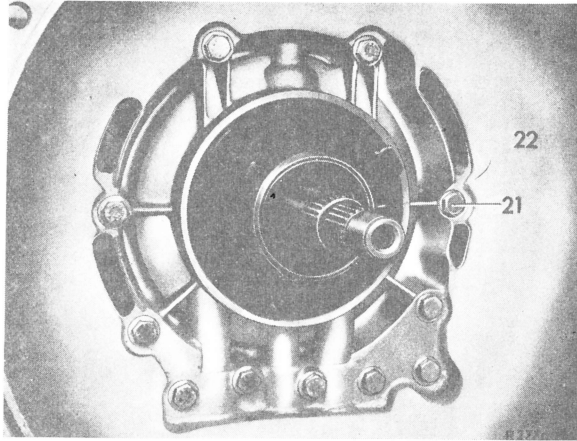

Fig. 59
**86** Mount front transmission case (22) with new gasket. Screw-in fastening bolts and tighten to 13 Nm (1.3 kpm) (Fig. 59).